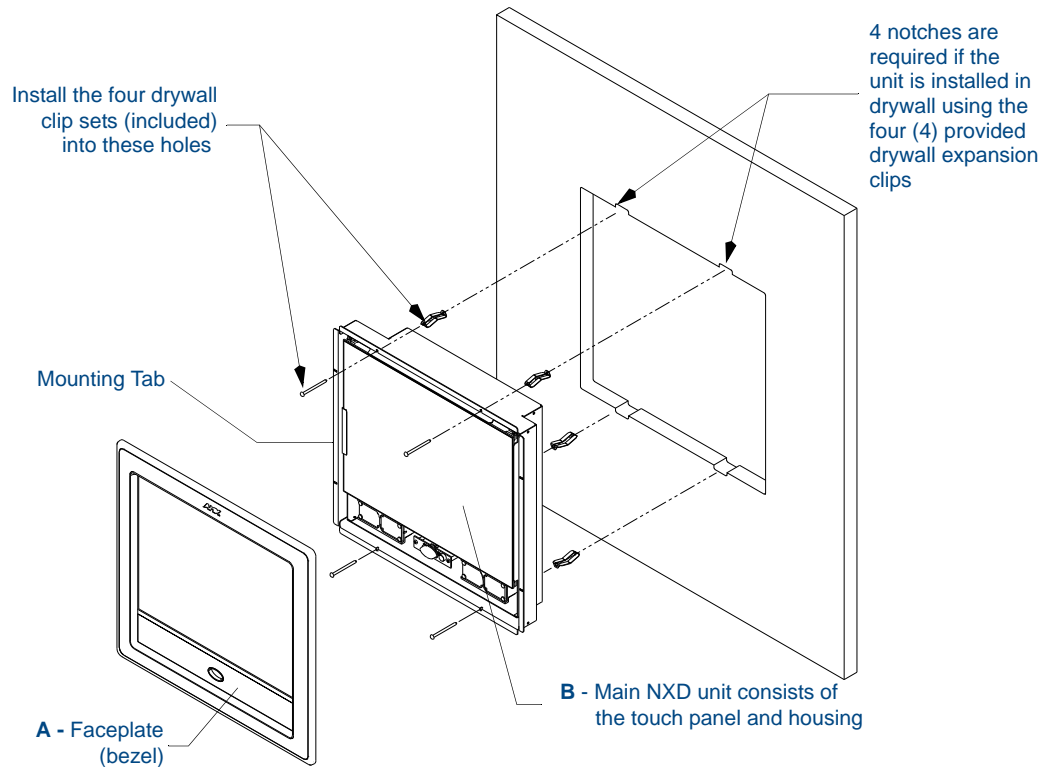

FIG. 40 Wall Mount panel (NXD) installation configuration for drywall surfaces
3. Remove the magnetic faceplate/bezel (A in FIG. 40) from the main NXD unit (B in FIG. 40) by gripping the faceplate and pulling with gentle outward force.
8. Insert the four sets of drywall screws and expansion clips into the four oval notch locations along the top/bottom edges of the main unit (FIG. 40).
9. Carefully insert the main unit (with expansion clips) into the cutout until the Mounting Tabs on the NXD unit lie flush against the wall (FIG. 40).
11. Place the magnetic faceplate (**A** in FIG. 40) back onto the main NXD unit (**B** in FIG. 40).